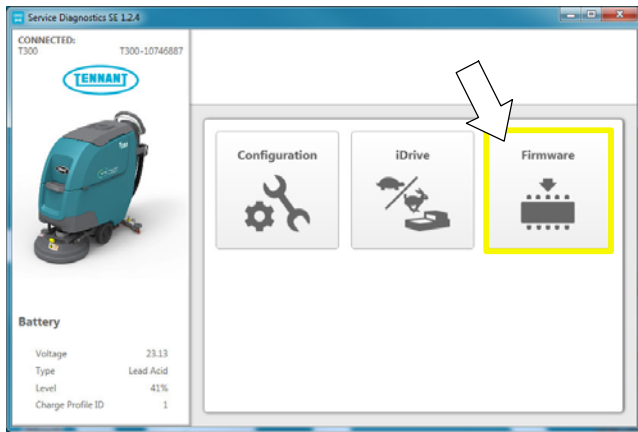

Fig. 25
- Once connected, the home screen will appear (Figure 25). If firmware updates are required, the “Firmware” button will be highlighted in yellow as shown. Press the button to update the machine’s firmware.